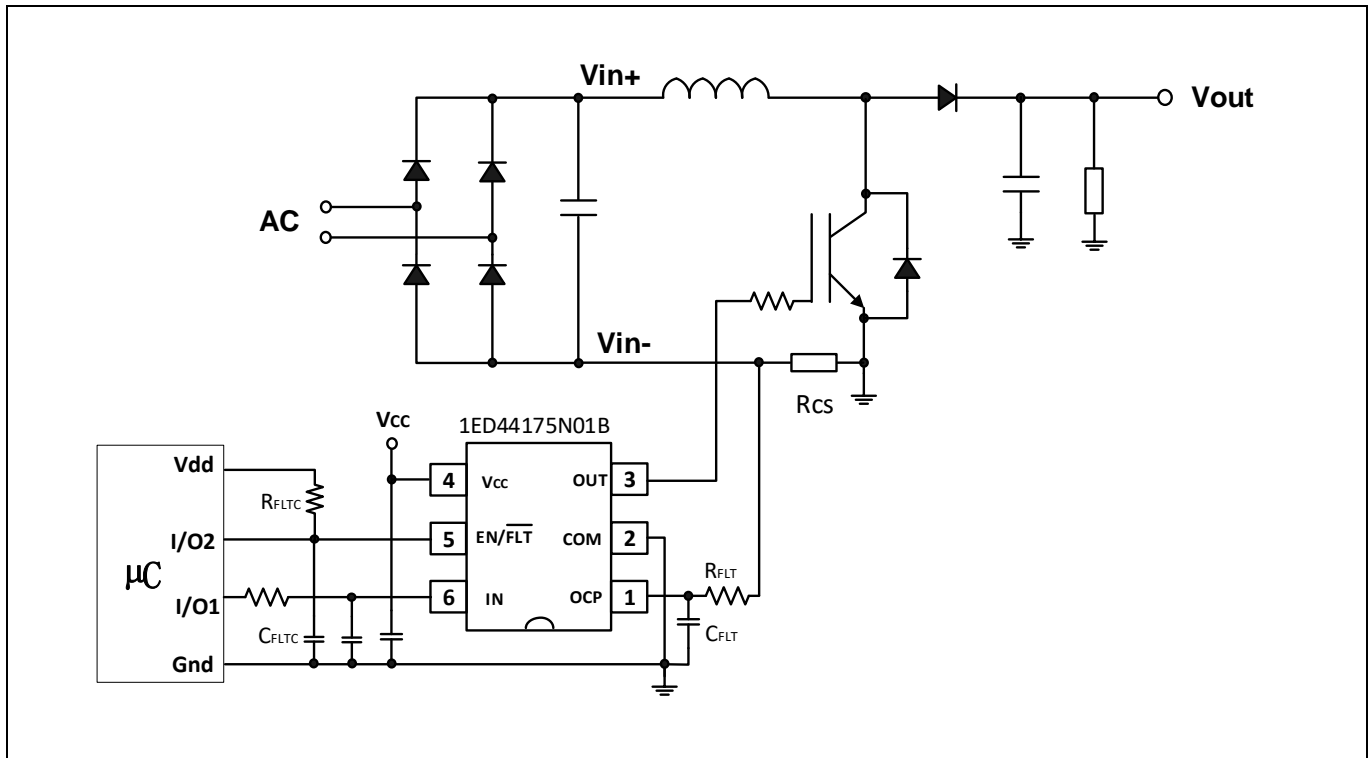
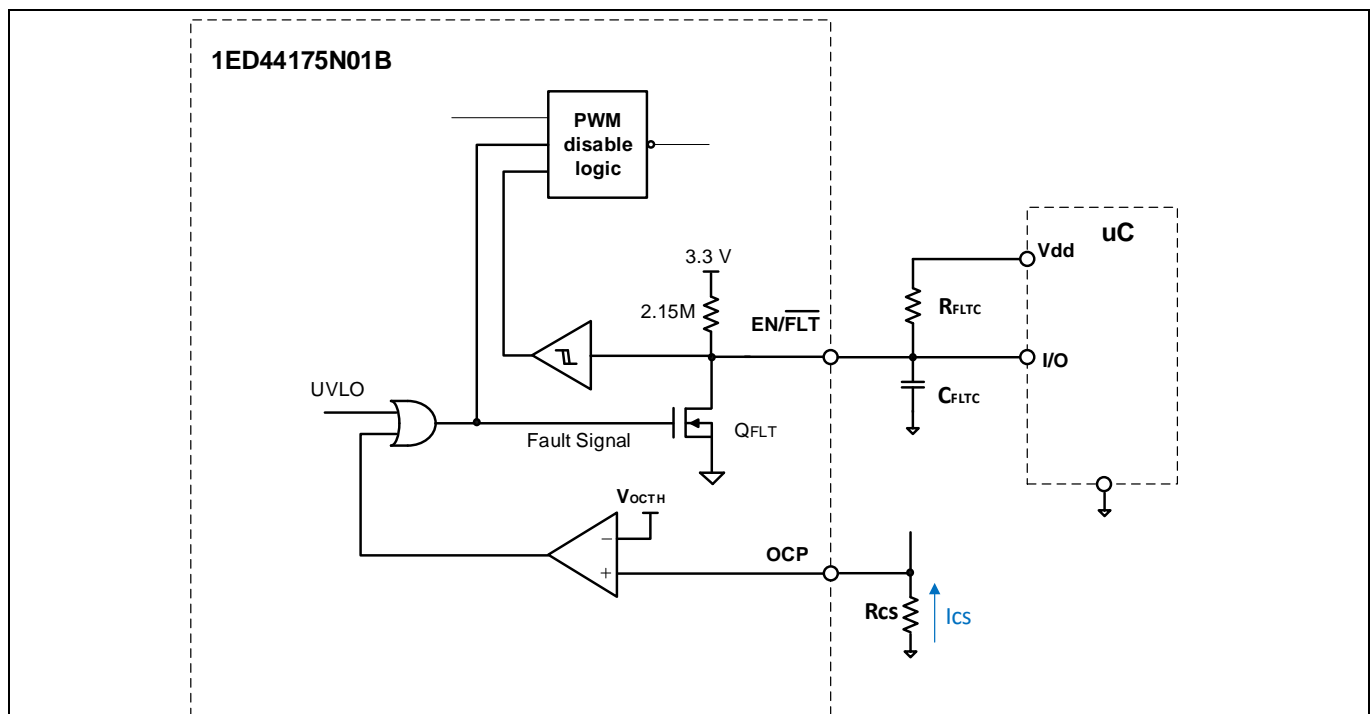

Figure 5 Application circuit example of active power factor correction (APFC) with  $R_{cs}$  for OCP
Figure 11 Diagram of the fault output circuit and fault clear time setup
- The  $R_{CS}$  should be connected between the pin of system ground and the input power return to detect short-circuit current (refer to Figure 5). An RC filter needs to be connected between the shunt resistor and the OCP pin if the internal blanking time is not sufficient to eliminate the noise.
Figure 5 shows a typical application circuit of 1ED44175N01B for the interface schematic with control signals connected directly to a XMC™  $\mu$ C.
The length of the fault clear time period ( $t_{\text{FLTc}}$ ) is determined by exponential charging characteristics of the capacitor where the time constant is set by  $R_{\text{FLTc}}$  and  $C_{\text{FLTc}}$ . Figure 11 and Figure 5 show that  $R_{\text{FLTc}}$  is connected between the external supply ( $V_{\text{dd}} = 3.3 \text{ V}$ ) and the EN/ $\overline{\text{FLT}}$  pin, while  $C_{\text{FLTc}}$  is placed between the EN/ $\overline{\text{FLT}}$  and COM pins. Actually the EN/ $\overline{\text{FLT}}$  pin is pulled up to 3.3 V with a 2.15 M $\Omega$  pull-up resistor internally.